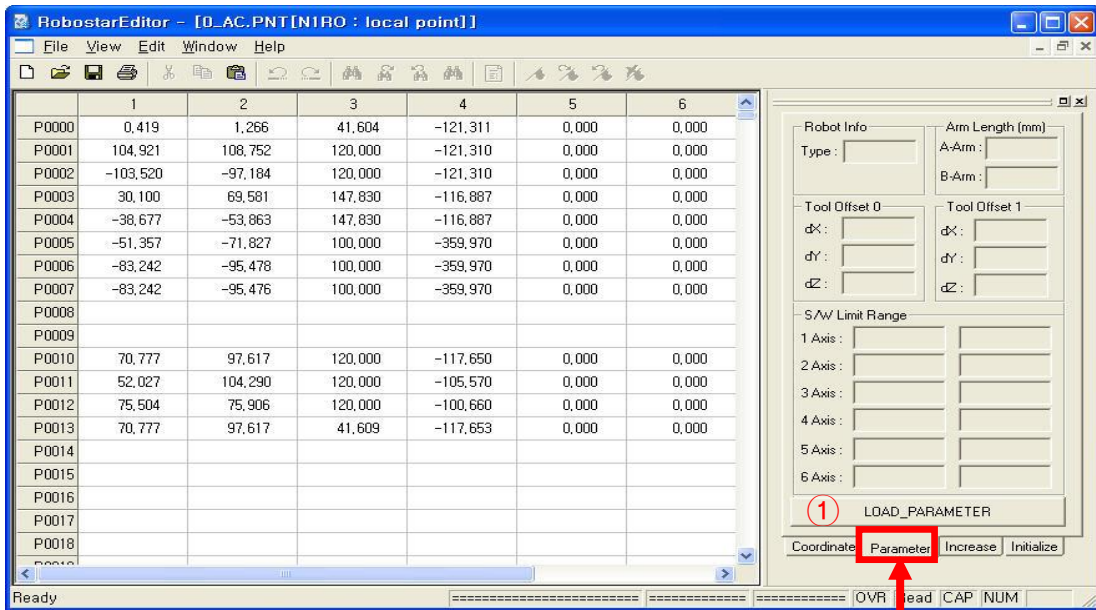
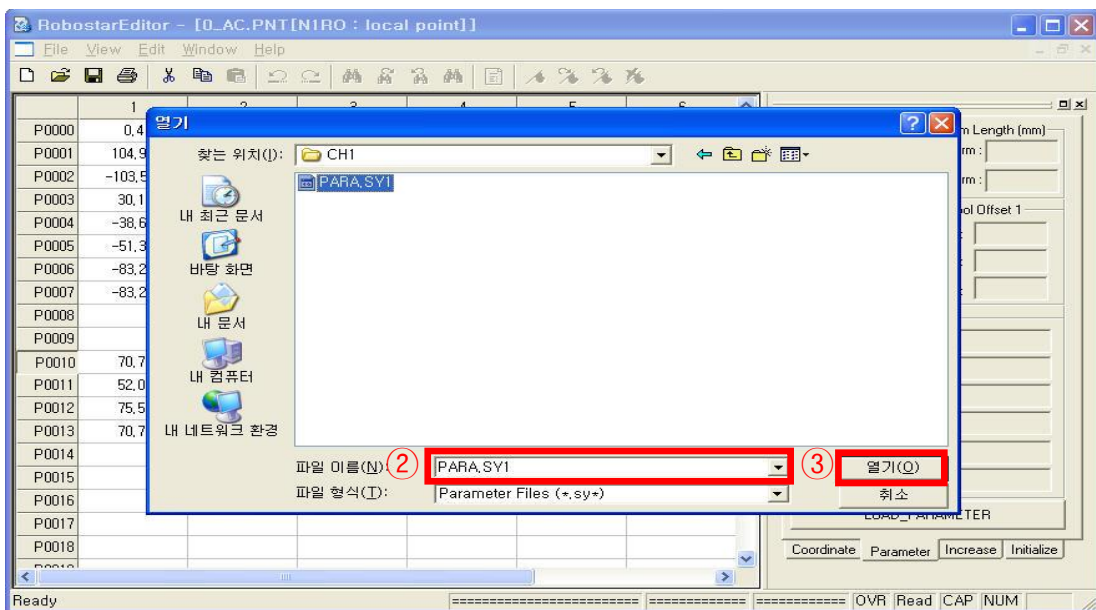

Fig.3-10
Fig.3-11
The Fig.3-10 below shows a tab that can LOAD PARAMETER information needed when using a function of Point Coordinate, known as XY coordinate conversion formula, in Point Editor. This task must be performed in advance to use a Coordinate function.
As shown in above Fig. 3-10, select ① "LOAD PARAMETER" and open the Local Parameter file in the controller for use in coordinate conversion as shown in Fig. 3-11 below.